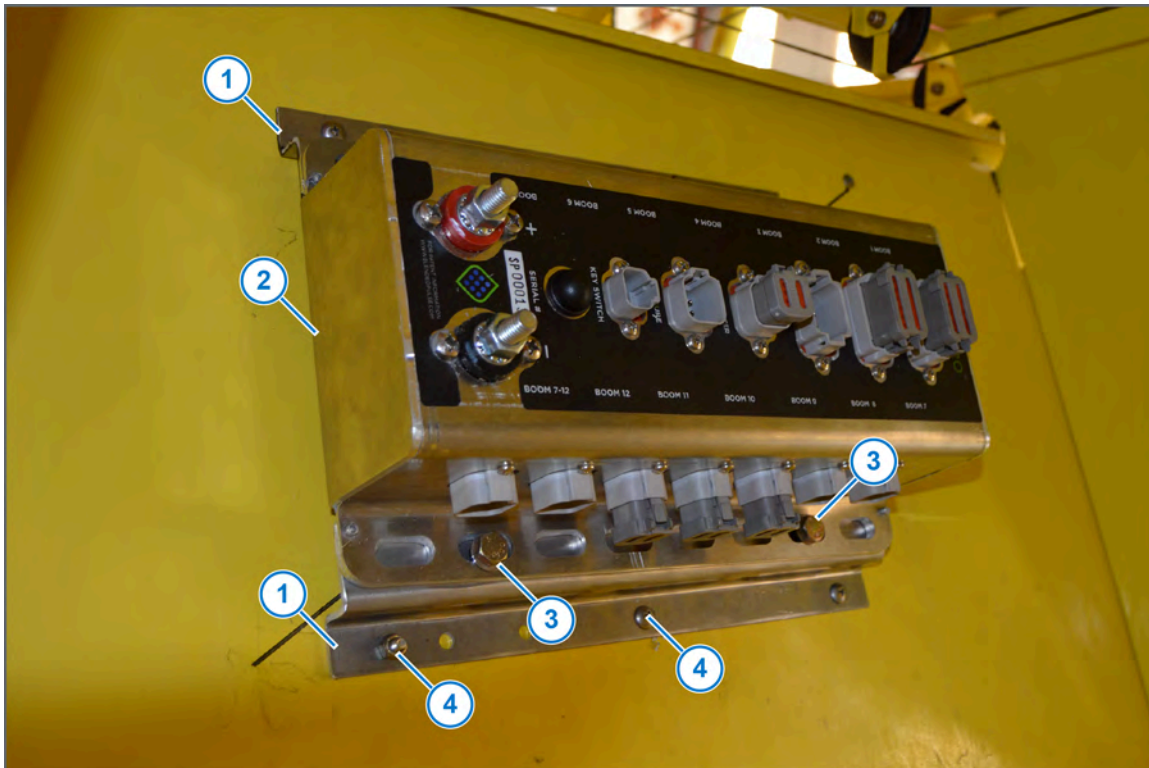

Figure 20: Mounting the Gateway Hub
1. Cut 12 inches off of each end of a supplied Gateway hub mounting bracket (Figure 20, Item 1).
See Figure 20
2. Put the Gateway hub (Figure 20, Item 2) onto each 12-inch mounting bracket, aligning the 3/8 holes in the bracket with the Gateway mount.
3. Install the Gateway hub to the brackets with the supplied hardware (Figure 20, Item 3)—3/8-24 x 31/32 hex bolts, 3/8 flat washers, and 3/8-24 nuts.
6. Attach the Gateway hub and mounts to the inside of the luggage compartment with the supplied Cherrymax rivets (Figure 20, Item 4).